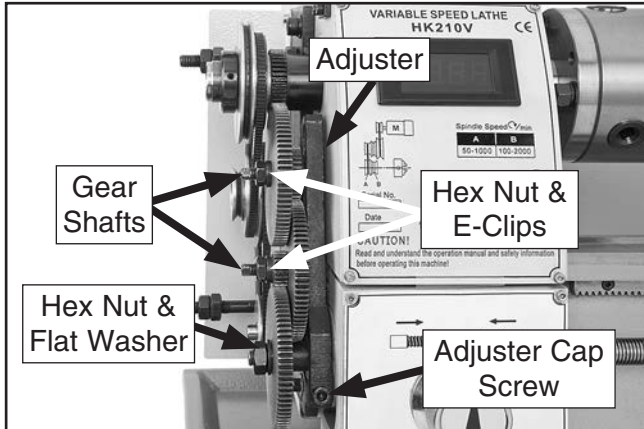

Figure 75. Adjuster cap screw location.
- Loosen adjuster cap screw shown in **Figure 75**, and pivot adjuster down to disengage gears.
- Remove hex nuts, e-clips, and flat washer that secure gears (see **Figure 75**).